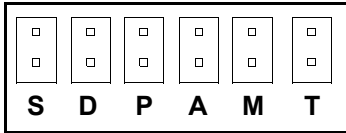

Fig. 6. Jumper block J1
The Jumper Block (see Fig. 6) is used to select operating modes, as follows:
1. Remove the front cover and place the LED Jumper (see Fig. 6) in the M (microwave) position.